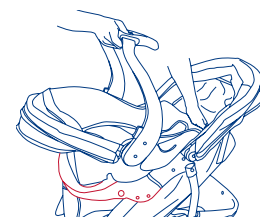

Fig. 14
- Position the Infant Car Seat, facing toward the rear of the stroller, so that the seat shell goes into the front tray and latches into place. (Fig. 14) **Check that the Infant Car Seat is firmly locked onto the front tray before using.**